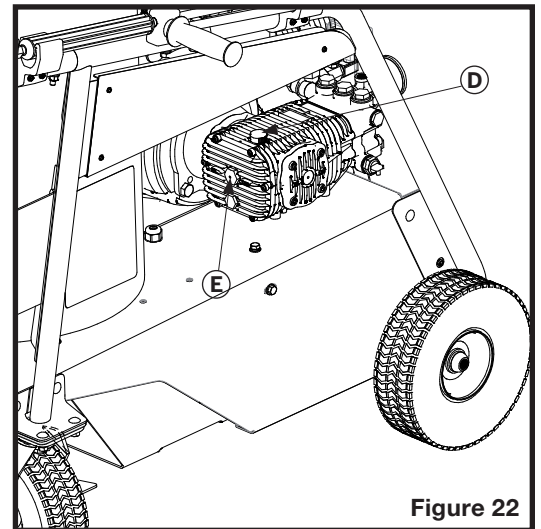

Figure 22
5. Unscrew the oil filler cap/dipstick (D on figure 22).
6. Fill with NON DETERGENT SAE 30 oil to halfway on the sight glass (E on figure 22). Pump crankcase capacity is 27 ounces (0.8 l).